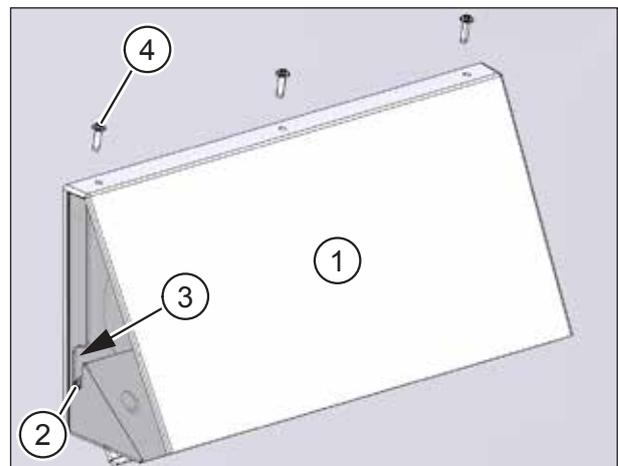

Fig. 11: Outer wall terminal installed
- ▶ Position the cover (item 1 in Fig. 11) on the base plate so that the tabs of the cover (item 2 in Fig. 11) slide into the guides on the base plate (item 3 in Fig. 11).
- ▶ Use the three cross-head screws 3.5 x 16 (item 4 in Fig. 11) to fix the cover.